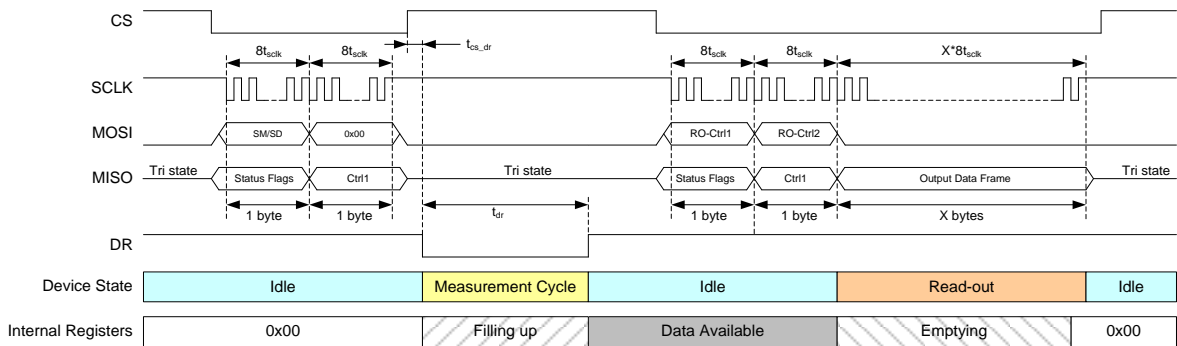

Figure 13 : Separated SM - RO (X value is defined in Figure 6)
- Figure 13 : Separated SM - RO (X value is defined in Figure 6) shows the operation with separate SM and RO commands. After upload of a SM command, the measurement cycle will start and the internal registers will be filled. Once the DR pin is high, the RO command can be uploaded to start the read-out cycle. All data of the internal registers will be transferred and at the end of the read-out the registers will be cleared.